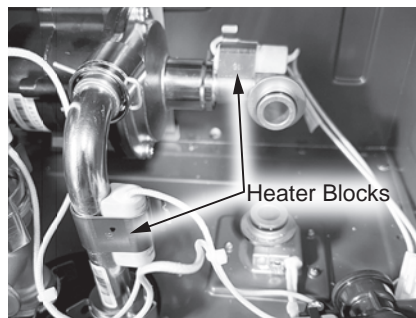

Figure 161 - Heater block locations
21 Locate the two heater blocks attached to the pump inlet elbow and the pump outlet tube as shown in Figure 161. Remove brackets (size 16) securing heater blocks to pipe connections. Place brackets aside in a safe place for reinstallation. Route heater blocks and wiring inside water heater cabinet for ease of access to water pump.
- 33** Locate the two (2) heater blocks and brackets (size 16) previously removed in **Step 21**. Secure heater blocks to pump inlet elbow and pump outlet tube as shown in Figure 161.